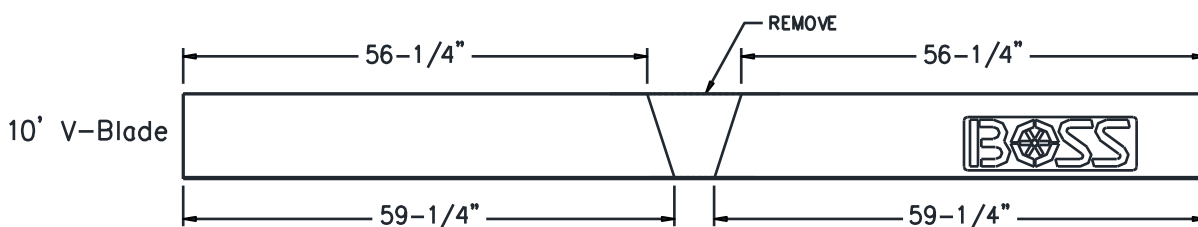

Figure 2. Belting Cut Length
1. Cut MSC04058 Belting (1) into two pieces. Use the dimensions specified in Figure 2.